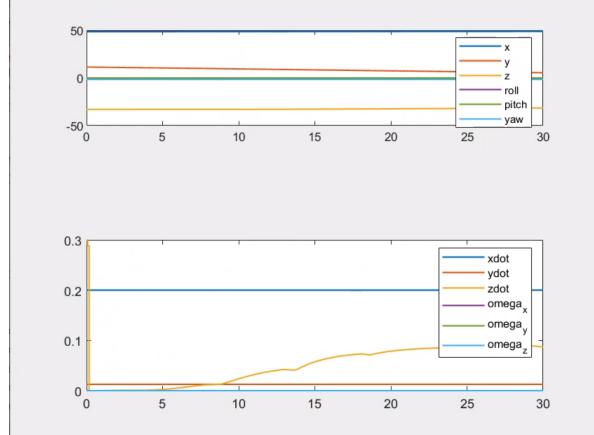

Figure 7: Resulted graph during the Minimum Altitude Vehicle task imposed 1m distance
- **1 m:** This time the problem is the opposite. The control task is no more active at the starting instant. The UVMS starts to accomplish the Vehicle Position Control task, when the seafloor present an hill the UVMS start to follow the pattern (Figure 7). However, there are some troubles during the navigation because the "noise" of the robot, with only 1 meter of distance (and no Δ that could prevent this), could touch the soil because the sensor it's on the center of the vehicle.